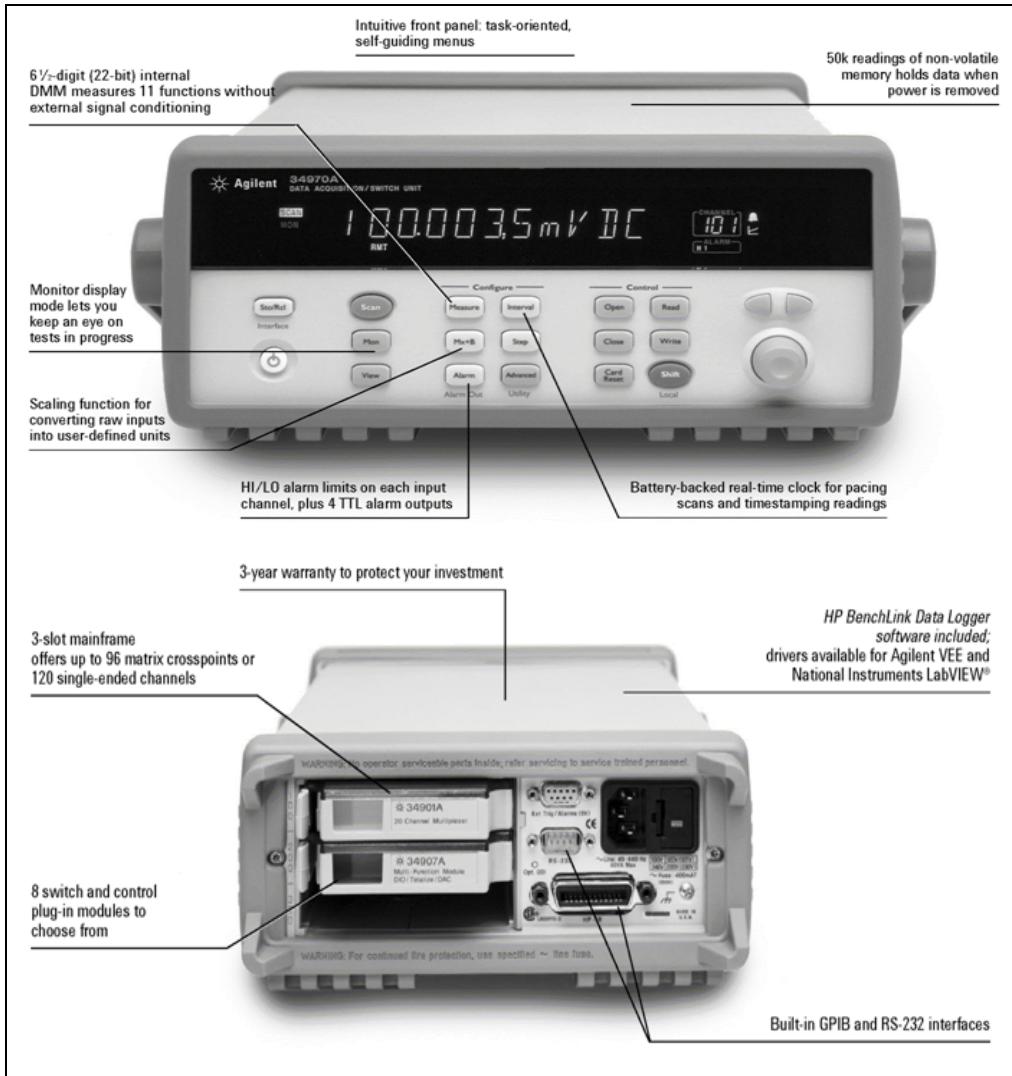

Figure 3-2 The 34970A Data Acquisition/Switch Unit
- 2 Install the 34970A unit in the appropriate slot as noted in your card list. For a photograph of this switch unit, see Figure 3-2.
- 5 Insert the Multiplexer into the top slot in the rear of the 34970A Data Acquisition/Switch Unit. See the bottom photograph of Figure 3-2 above.